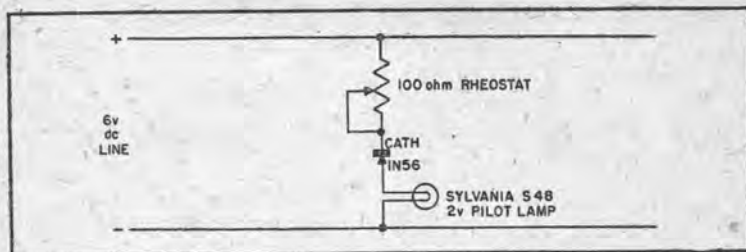

Figure 6. Circuit of Polarity Reversal Alarm.
- Figure 6. Crystal: WB4B Westinghouse or CG6M B.T.H.
Figure 6 shows the circuit of a simple polarity reversal alarm. A small, Sylvania S48 2-volt pilot lamp is connected in series with a crystal diode and resistor across the line to be monitored. The cathode terminal of the crystal normally is connected to the positive side of the line. The crystal connected in this manner offers high resistance and the lamp cannot light. If the polarity of the line is reversed, the crystal cathode then is connected to the negative side of the line, and the crystal presents a low resistance to the line voltage. The larger current then flowing through the crystal circuit lights the lamp. A visual alarm which may be seen at some distance is provided.
The circuit as shown in Figure 6 is entirely satisfactory for short-time indications, since the resistor limits the crystal current to 60 milliamperes. If there is likelihood that the lamp might burn for some time before attracting the operator's attention, two crystal diodes should be connected in parallel to handle the current. If line voltages higher than 6 volts are employed, the resistance of the rheostat must be increased to a value which will limit current through the crystal and lamp to 60 milliamperes. The exact value of this resistance will have to be determined experimentally for the particular line voltage used.
To set the circuit of Figure 6 initially, make the upper side of the line negative and adjust the rheostat until the lamp burns. A dc milliammeter may be connected temporarily in series with the crystal and lamp to check the current. In normal operation, keep the upper side of the line positive.